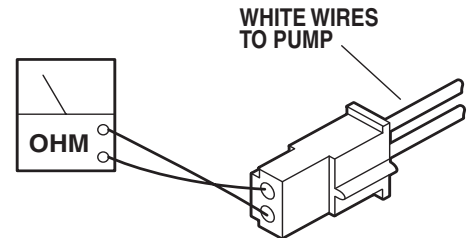

Figure 7-27.
1. Turn OFF both Battery and AC120V operating models and disconnect connectors CN19. See Figure 7-27.